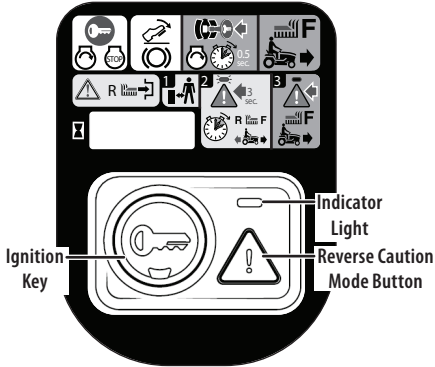

Fig. 29
2. Press the REVERSE CAUTION MODE button and hold for 3 seconds. The indicator light will flash for 3 seconds and will stay on when the REVERSE CAUTION MODE is activated (Fig. 29).
3. The indicator light above the REVERSE CAUTION MODE button will be ON while activated (Fig. 29).